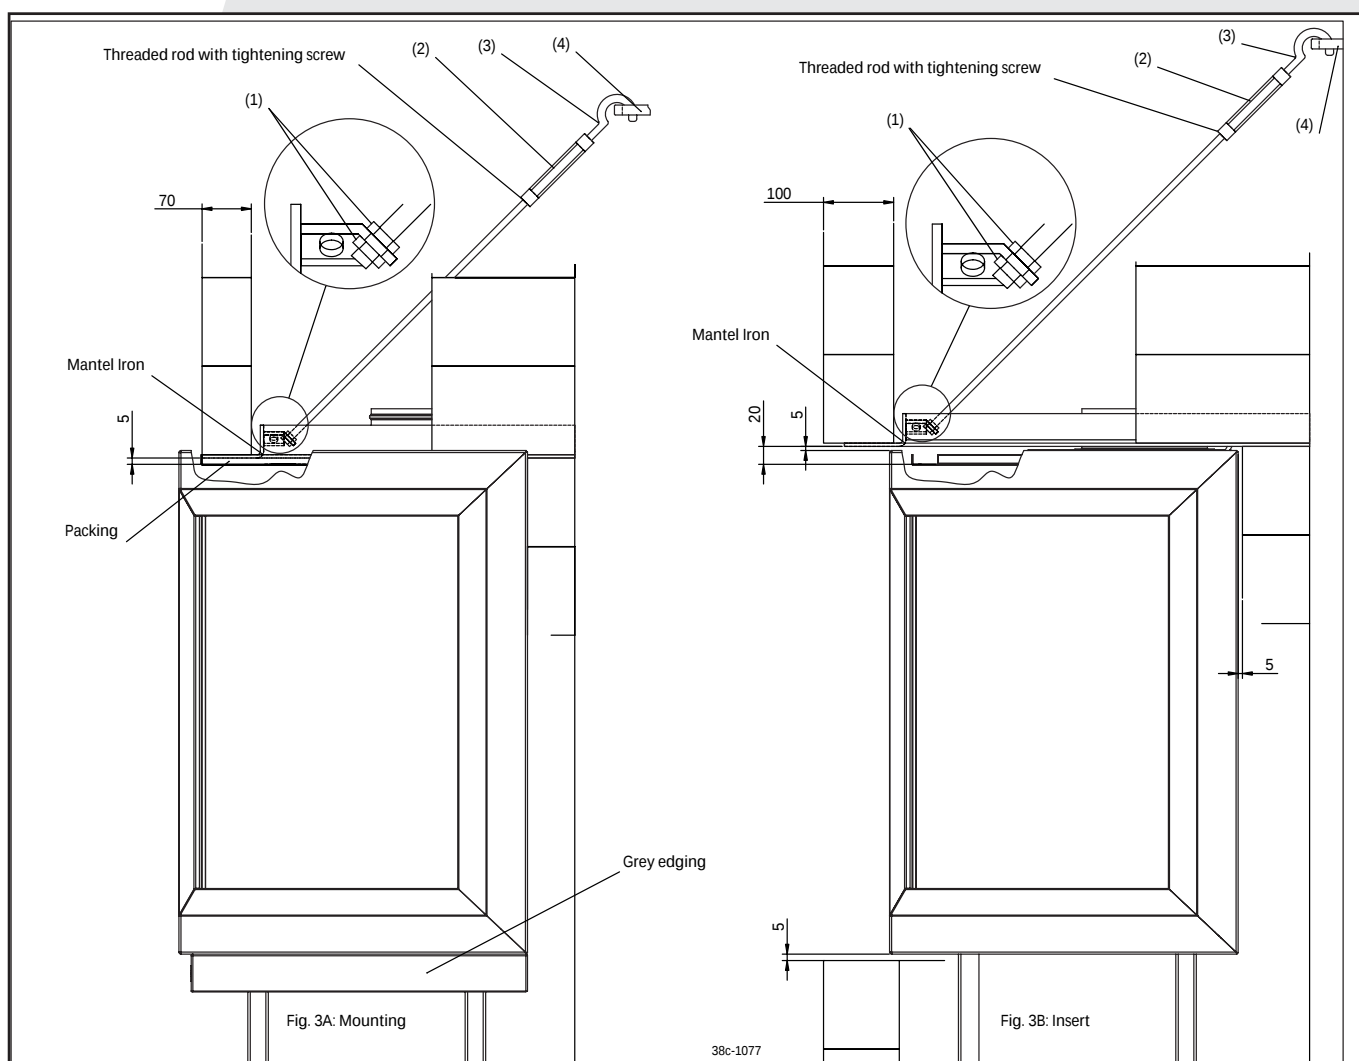

fig. 3
- Select the required connection from the options shown in figure 3.